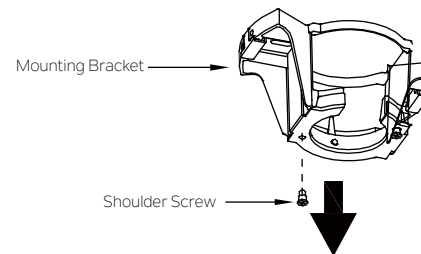

Fig.15
**Step 1.** Remove one of the two shoulder screws shoulder screw without fully removing it. (Fig. 15)